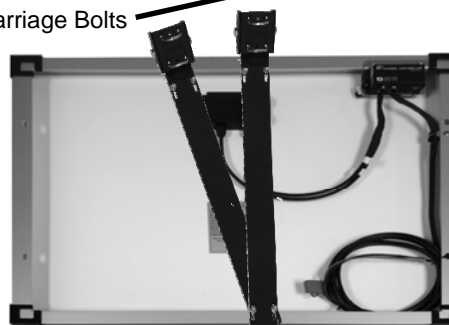

Figure 3B
7. Rotate the Mounting Arm and secure it to the Solar Panel by tightening the Carriage Bolts (Figure 3B)